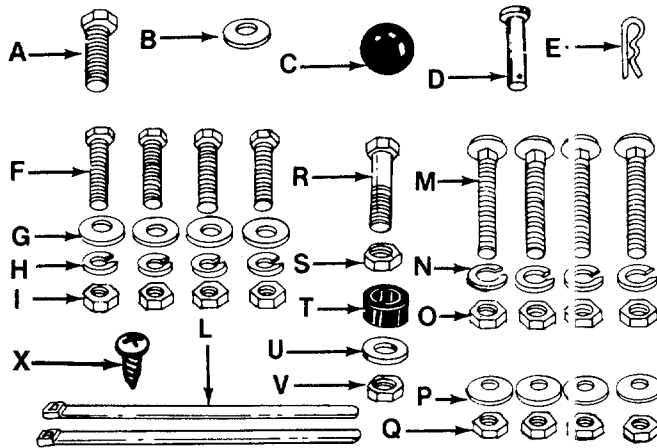

FIGURE 1.
**Contents of Hardware Pack: (See Figure 1)**
- A (1) Hex Bolt 3/8-16 x 3/4" Long
- B (1) Flat Washer 3/8" I.D.
- C (1) Ball Knob
- D (1) Clevis Pin
- E (1) Hairpin Cotter
- F (4) Hex Bolts 3/8-16 x 1.0" Long
- G (4) Belleville Washers 3/8" I.D.
- H (4) Lock Washers 3/8" I.D.
- I (4) Hex Nuts 3/8-16 Thread
- L (2) Cable Ties